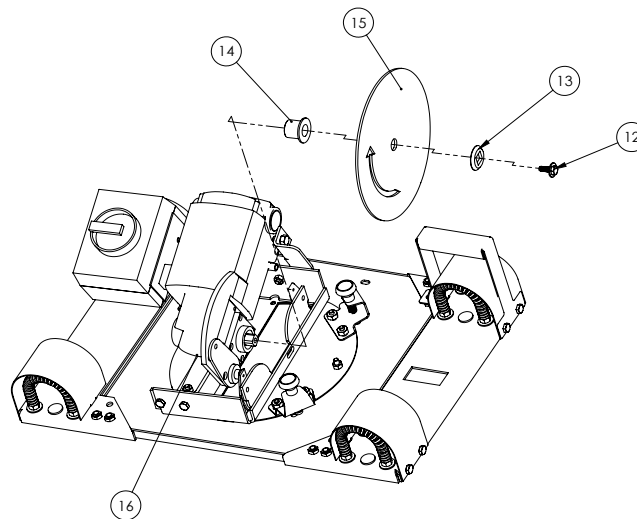

Figure 19: Installing a Saw Blade (6400 & 6800 series)
4. Install the blade with the arrow pointing clockwise as shown Fig. 19 #15